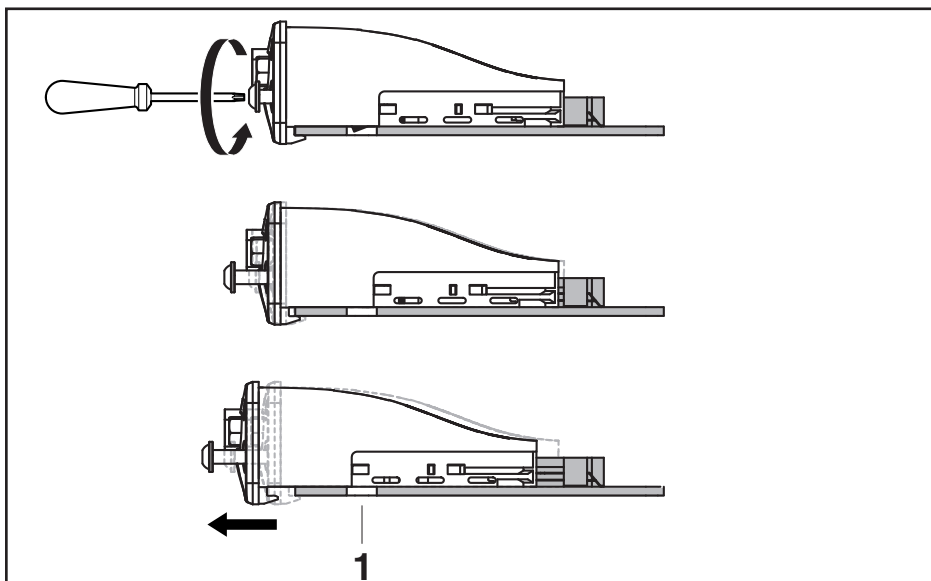

Fig. 4: Releasing the lock
2. Loosen the front torx screws. The IMmtcp interface module may only be removed once the lock has been completely released (see Fig. 4).